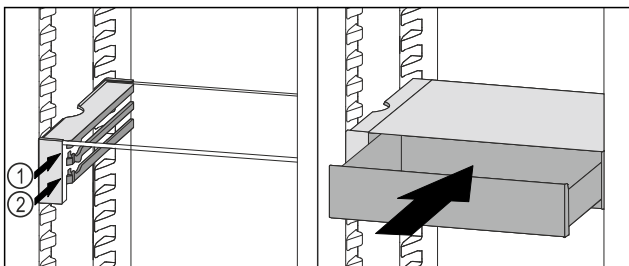

Fig. 93
- ▶ Place the VarioSafe drawer behind the stoppers on desired rib Fig. 93 (1) or Fig. 93 (2).